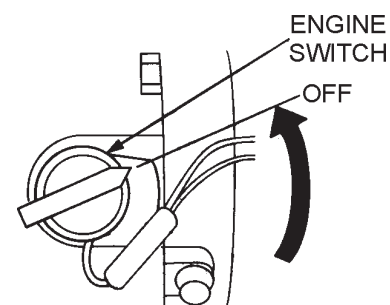

Figure 24. Starter Switch (STOP)
- Turn the engine **ON/OFF** switch to the "**OFF**" position (Figure 24).